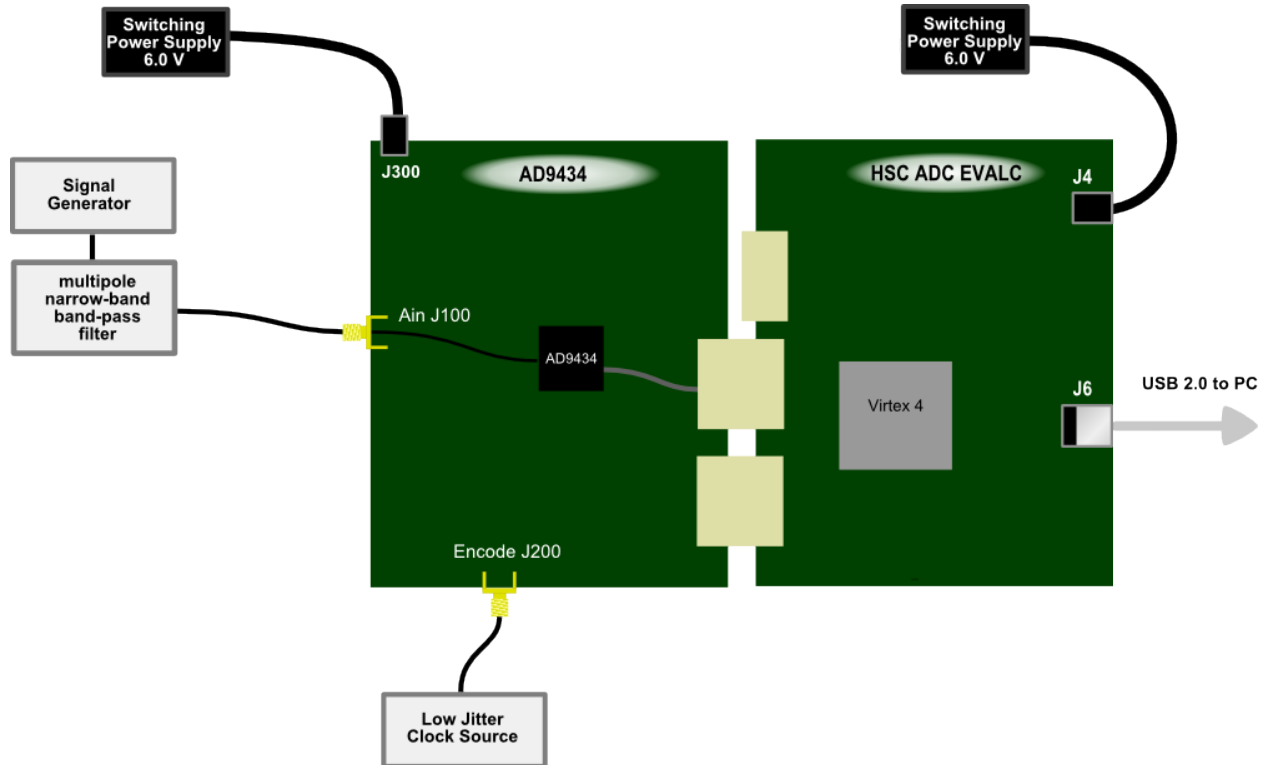

Figure 1: AD9434 ADC Evaluation Board – HSC ADC EVALC Data Capture Board
1. Connect the AD9434 evaluation board to the HSC-ADC-EVALCZ boards together as shown in Figure 1.